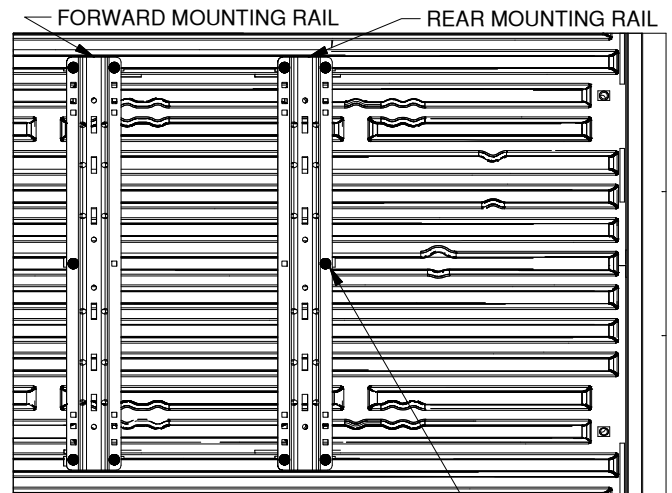

Figure A2: Detail view over bed, showing drill locations for the forward and rear bed rails.
2. **Mark hole locations:** While carefully ensuring the mounting rail does not move, use a center punch tool to mark the 5 drill locations on the rear rail. See figure A2 for hole marking locations for this installation (forward rails will install on a later step). Once all 5 rear rail locations are clearly marked, move the bed rail out of the way and drill each location with an 1/8" drill.
3. **Drill forward mounting holes.** Using the same methods as used for the rear mounting rail, mark, drill, check, and enlarge the holes for the forward mounting rail. Refer to "DRILL REAR MOUNTING HOLES" section, steps 2 through 4, on a previous page. Notice that the hole locations are slightly different than the rear rail, see figure A2 (on the second page).